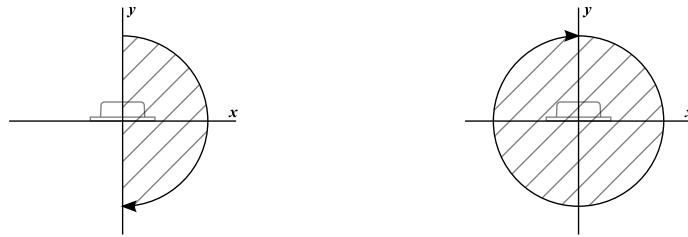

Figure 1: From left to right:  $180^\circ$  of coverage, or 50%.  $360^\circ$  of coverage, or 100%.
4. Rotate the IMU in space. The more complete the *coverage*, the better the resulting calibration. Think of *coverage* as the total number of orientations you rotate the sensor through. See Figure 1 for an example in 2D, on a circle. You will have to work in 3D, on a sphere, but the concept is the same.